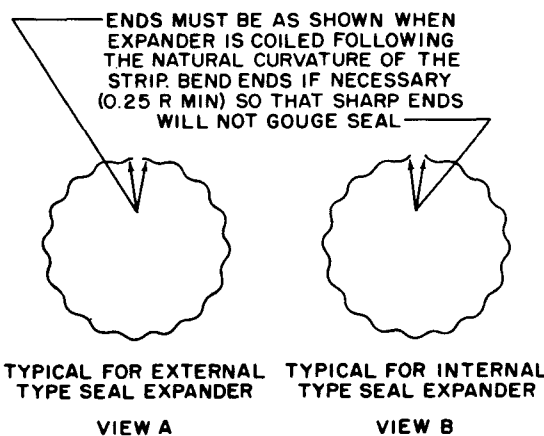

Fig. 6-22. Teflon sealring expanders
(1) Install the sealring expanders into the grooves in the high- and low-range clutch pistons. Make sure the free ends of the expander turn away from the sealring (fig. 6-22). The ends of some expanders may require additional bending to insure they turn toward the bottom of the groove.